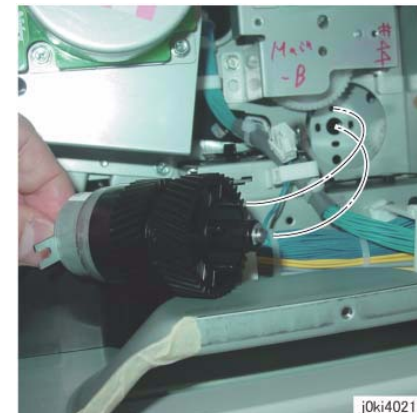

Figure 3 Install the Takeaway Clutch
2. When installing the Takeaway Clutch, align the bosses (x4) of the bearing to the installation holes. (Figure 3)